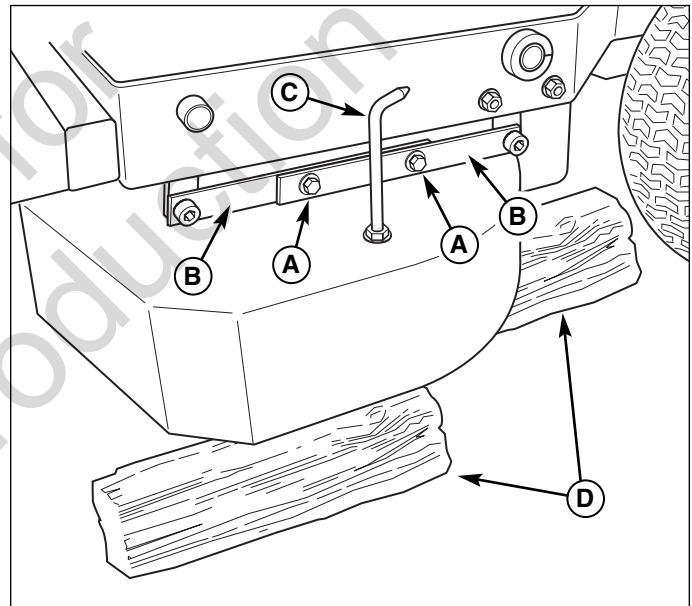

Figure 15. Deck Leveling Linkages
5. Loosen the bolts (A, Figure 15) that secure the connecting links (B) together. This will remove any tension from the mounting linkages and pivots.
7. Verify that the deck height indicator (C) is aligned with the 4" mark (if in the HIGH RANGE) or the 2" mark (if in the LOW RANGE). Adjust the indicator position if necessary.